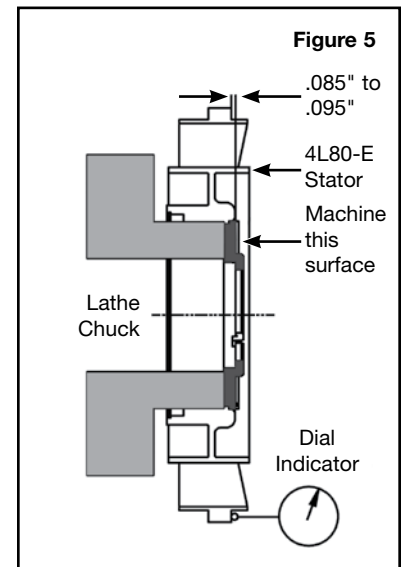
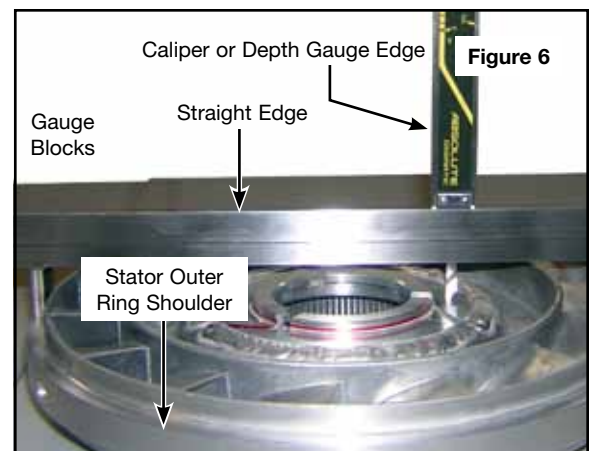

Figure 5
Figure 6
- This surface must be located .085" to .095" above the outer ring shoulder (**Figure 5**) to allow the correct stackup for the thicker **GM-N-20** bearing. This can be measured using a height gauge or with a straight edge and gauge blocks (**Figure 6**).